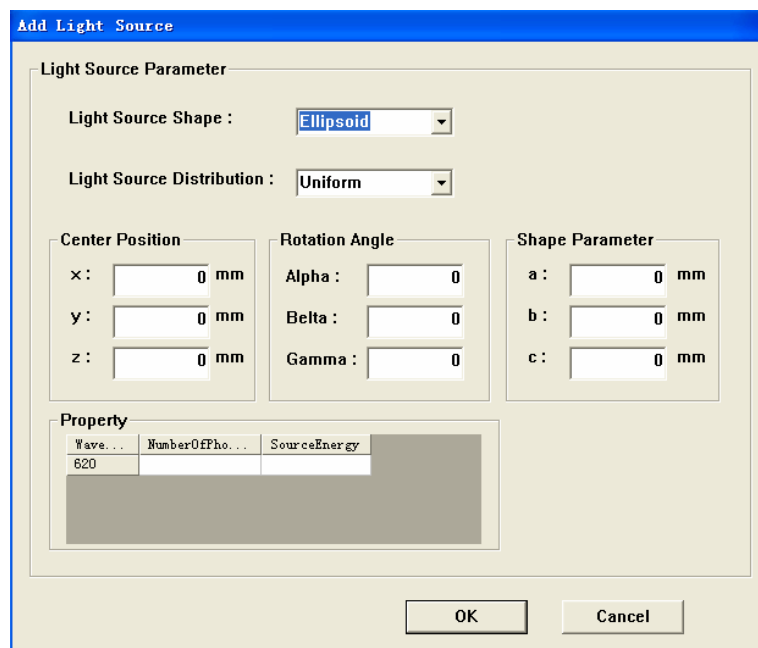

Figure 8-3. Dialog box for adding a light source
a. Click the button **Add Light Source**, regular shape light source will be added and the input dialog box is as follows (Figure 8-3):